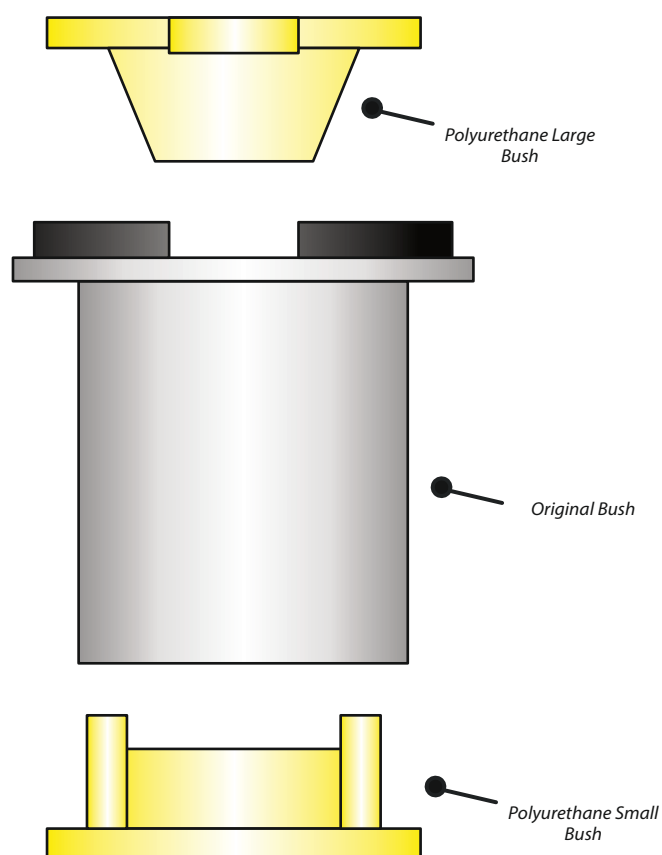

Figure 1
3. With some washing up liquid applied to make assembly easier, insert the smaller A insert into the top of the OE bush as shown in Fig 1 so that the tabs fit into the shaped voids on the lip of the bush.
4. From the underside of the beam, insert the larger B insert into the lower half of the OE bush as shown in Fig 1.